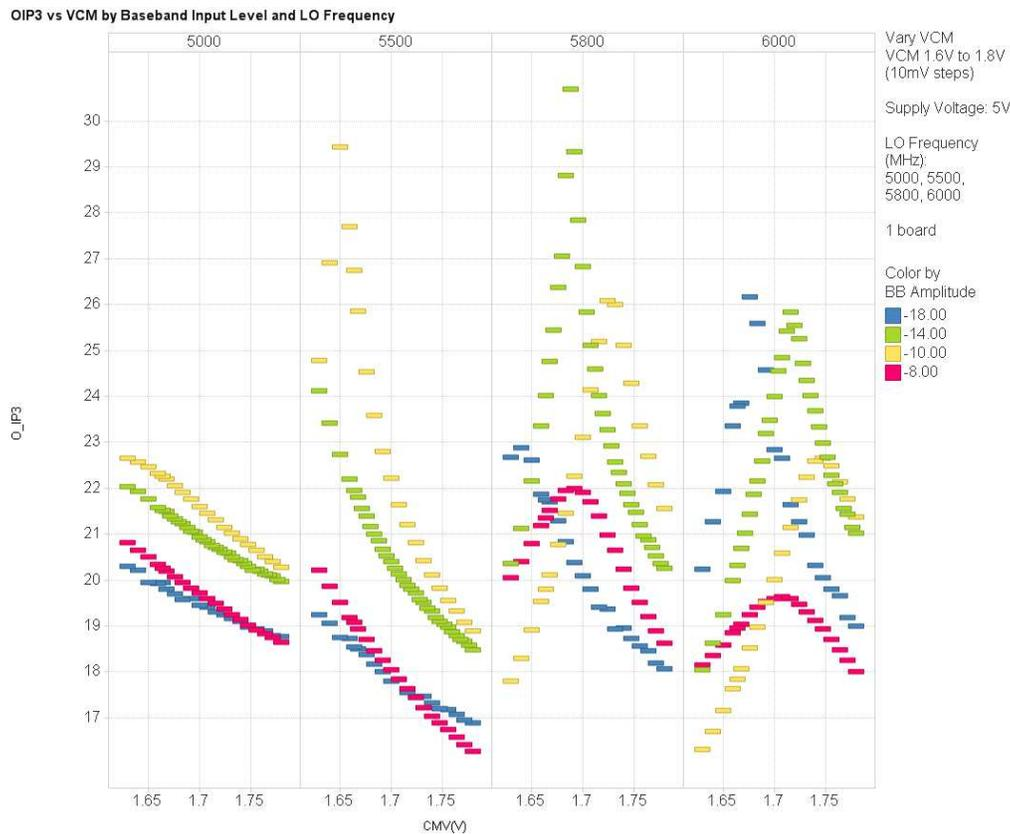

Figure 7. TRF370417 OIP3 vs Vcm at LO Frequencies (MHz) = 5000, 5500, 5800, 6000 at Baseband Input levels (dBm) = -8.0 , -10.0 , -14.0 , -18.0
Figure 7 demonstrates that as the baseband input level varies, the optimal Vcm setting varies too. The important item regarding Figure 7 is that an obvious trend of the optimal Vcm setting vs baseband input level is not easily identified. Therefore, it is recommended to have a fixed baseband input level when using the TRF370417 at LO frequencies beyond 4.5 GHz. In this paper, all plots used a 2-tone baseband input signal, with each tone set to -14.0 dBm by the signal generator. The signal generator assumed a $50\text{-}\Omega$ termination in its dBm calculation. In a $50\text{-}\Omega$ system, this calculates to 265 mVpp. However, the baseband inputs on the TRF370417EVM are unterminated. Therefore, the actual 2-tone signal amplitude at the TRF370417's baseband input pins is 505 mVpp. The table below can help decode Figure 7 dBm baseband amplitude settings from the signal generator.
3. Set the baseband input level to a fixed amplitude, see Figure 7